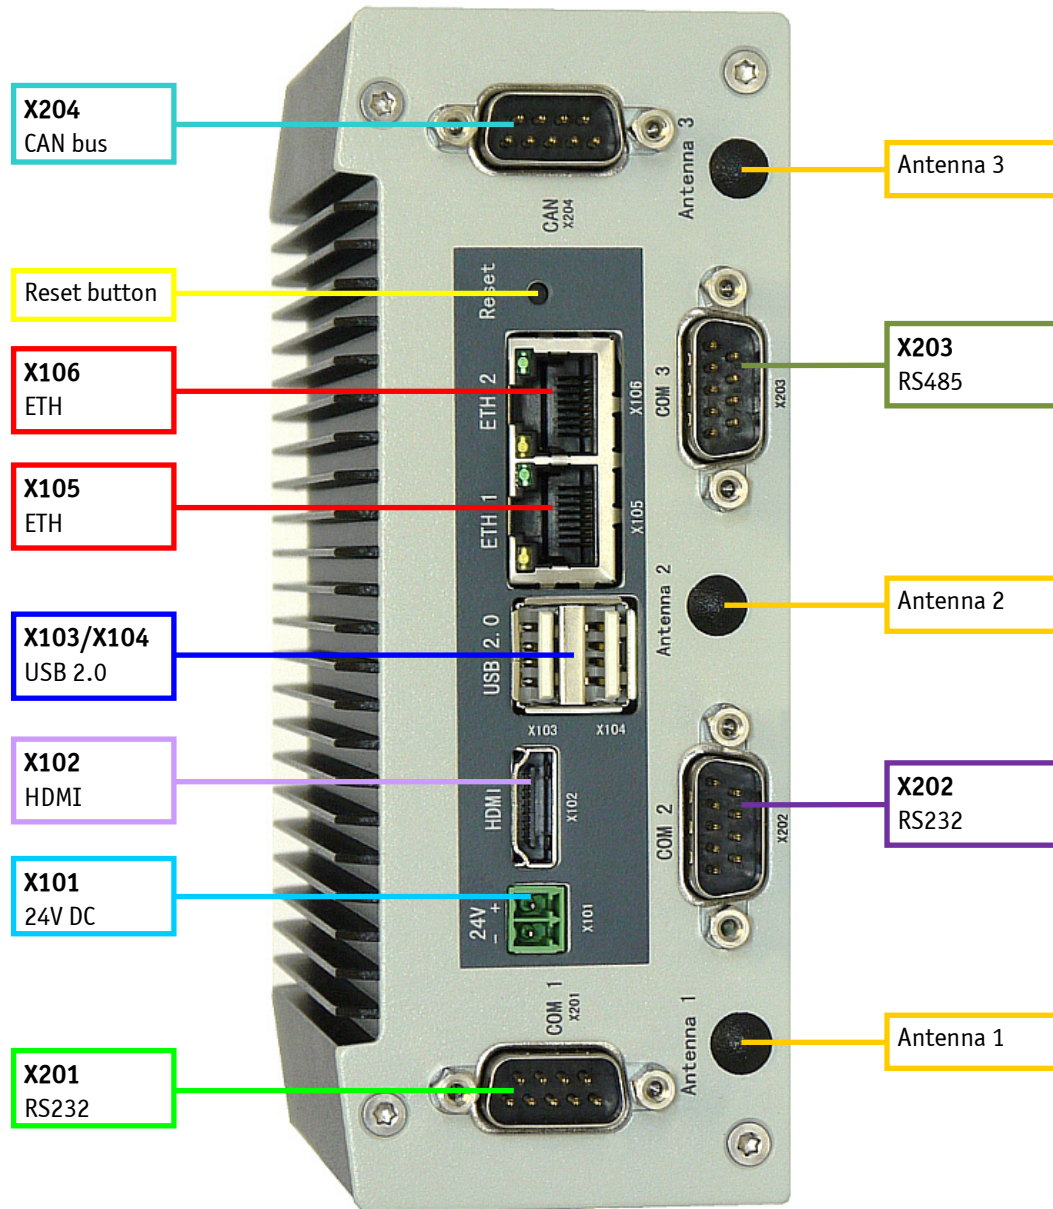
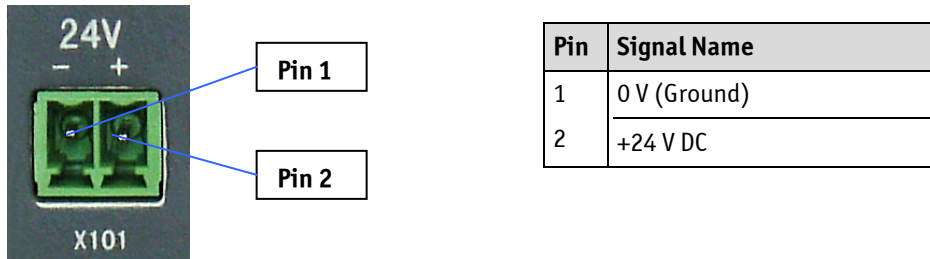

Fig. 8: Front view of KBox A-201
Fig. 9: X101 – 24 V DC power input connector
The 2-pin connector (X101, Fig. 8, Fig. 9) provides the power connection of the KBox A-201/A-202 to the appropriate DC main power supply. For pin assignments refer to the subsection 13.1.1.
This is a HDMI compliant interface realized using a HDMI 1.1 connector. An external (digital) display can be connected to the HDMI connector (X102, Fig. 8). For pin assignment refer to subsection 13.1.7 “(X 102) HDMI Port”.
The KBox A-201/A-202 provides two USB 2.0/1.1 interfaces. These connectors (X103/X104, Fig. 8) allow connection of USB-compatible devices to the system. For pin assignment refer to subsection 13.1.5.
The connectors are standard 8-pin RJ45 type connectors (Fig. 8) with status LEDs:
This interface (X201, Fig. 8) is provided as a 9-pin D-SUB connector; it is RS232 configured and allows the connection of a serial peripheral. For pin assignment refer to subsection 13.1.2.
This interface (X204, Fig. 8) is provided as a 9-pin D-SUB and allows the connection of a serial peripheral. It is designed to support RS232 serial communication. For pin assignment refer to subsection 13.1.3.
This interface (X204, Fig. 8) is provided as a 9-pin D-SUB and allows the connection of a serial peripheral. It is designed to support RS485 serial communication. For pin assignment refer to subsection 13.1.4.
Depending on the ordered system configuration, the KBox A-201/A-202 system can be equipped with WiFi hardware. If you have ordered a system configuration including WLAN, two Reverse (RP) SMA-connectors for screwing on the provided WLAN antennas are installed at the front side (Fig. 8; "Antenna 1" and "Antenna 3"). The "Antenna 2" connector is intended for future use only.
During the installation of the KBox A-201/A-202 the provided system antennas (Fig. 17) will be screwed onto the RP SMA connectors (Fig. 8; "Antenna 1" and "Antenna 3") of the system. The antennas may be tilted and rotated in the appropriate positions to get the optimal transmission and reception quality.